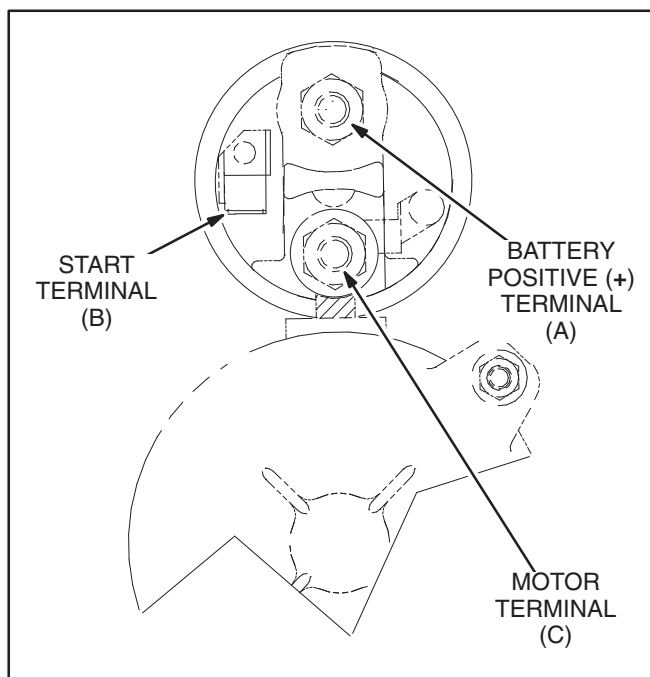

FIGURE 7-2. STARTER SOLENOID TERMINALS
Inspection: Refer to Figure 7-2. Before removing a starter because the engine does not crank:
2. Disconnect the spark plug cable so that the engine will not start. Then bypass the start circuit with a jumper between the Start and the Battery Positive (+) terminals on the solenoid (Figure 7-2). If the engine cranks, the solenoid and starter are probably okay. If the engine does not crank, go to Step 3.
3. Bypass the starter solenoid with a jumper between the Motor and the Battery Positive (+) terminals on the solenoid (Figure 7-2). If the motor responds, it is probably okay and it may only be necessary to replace the solenoid.